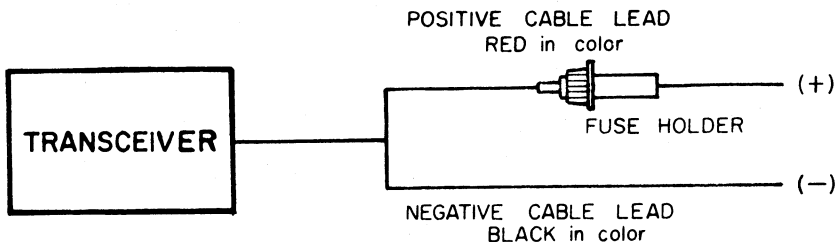

FIGURE 2, POWER CABLE, LEAD IDENTIFICATION DIAGRAM
Connect the FUSED power lead (RED) to the POSITIVE (+) terminal of the power source (a battery in most vehicles) or to the accessory terminal on the ignition switch or to the accessory fuse on the fuse block (refer to fig. 2).
Connect the FUSED power lead to the FRAME of the vehicle or to the POSITIVE (+) terminal of the power source (refer to fig. 2).
4. Refer to fig. 2 for the proper connections to the external power supply.